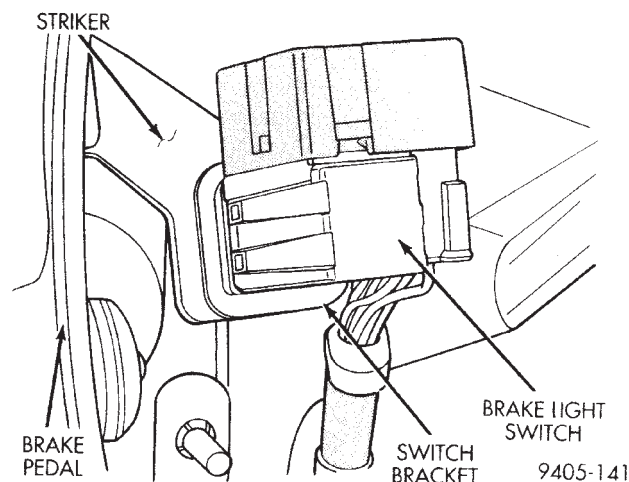

Fig. 174 Stop Light Switch Location In Vehicle
CAUTION: Do not use excessive force when pulling back on brake pedal to adjust the stop lamp switch. If too much force is used, damage to the vacuum booster, stop lamp switch or striker (Fig. 174) can result.
(5) Connect the wiring harness connector to the stop lamp switch.
(6) Gently pull back on brake pedal until the pedal stops moving. This will cause the switch plunger (Fig. 174) to ratchet backward to the correct position.